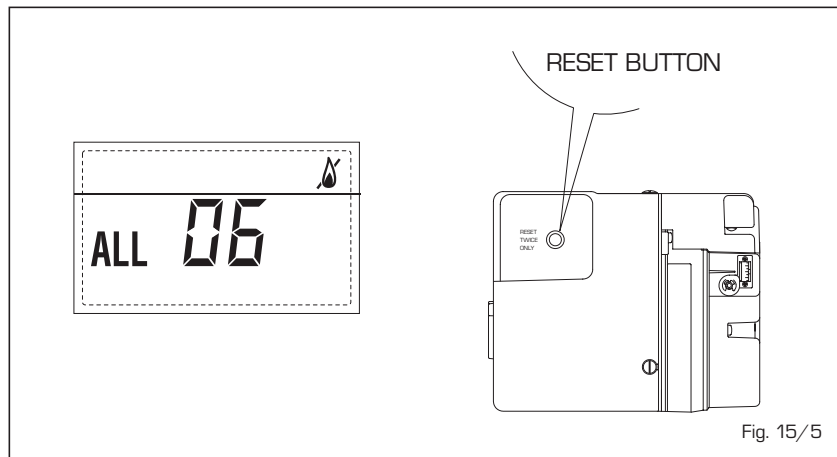

Fig. 15/5
- SAFETY THERMOSTAT ANOMALY (fig. 15/6)